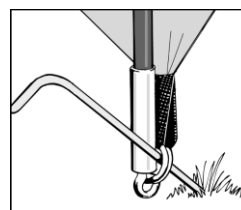

Figure 2.
- Start pegging out the tent at the front corners using steel V pegs. Pegs should be positioned at a 45° angle to ensure maximum grip (see figure 2).
2. Peg the corners of the tent through the metal rings using pin-pegs. It is important to drive the peg into the ground at a 45 degree angle to obtain the best grip. (See Figure 2).